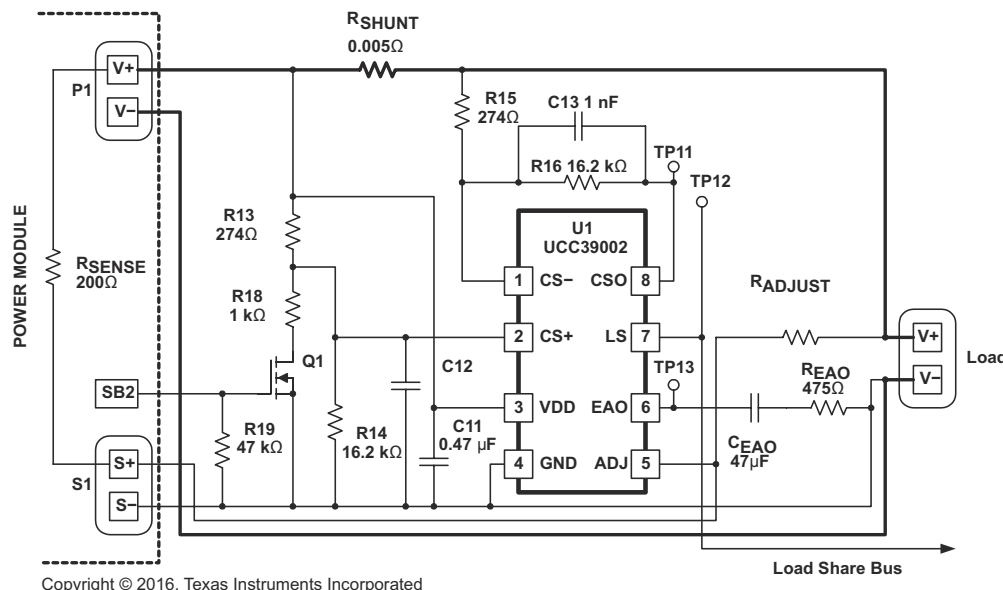

图 7-1. Typical High-Side Application for a Single Power Module
图 7-1 shows a typical high-side current-sense configuration for a single module which is repeated for each module to be paralleled. Direct connection of the VDD pin to the power module V_{OUT} rail ($V+$) is valid for V_{OUT} less than 13.5V.
In 图 7-1, P1 represents the output-voltage connector terminals of the module and S1 represents the remote-sense connector terminals of the module. In this example, a signal on the SB2 terminal enables the disconnect feature of the device. The Load-Share Bus is the common bus between all of the paralleled load-share controllers. The VDD supply must be decoupled with a good-quality ceramic capacitor returned directly to GND.
Referring to 图 7-1, the DC gain of the CSA is equal to R_{16}/R_{15} , and a high-frequency roll-off pole used for noise filtering is set by C_{13} . These component values are repeated at R_{14} , R_{13} , and C_{12} on the CS+ pin of the differential amplifier, as shown.
where (referring to 图 7-1)
- A_{CSA} is the DC gain of the Current-Sense Amplifier. (R15, R16 refer to 图 7-1.)